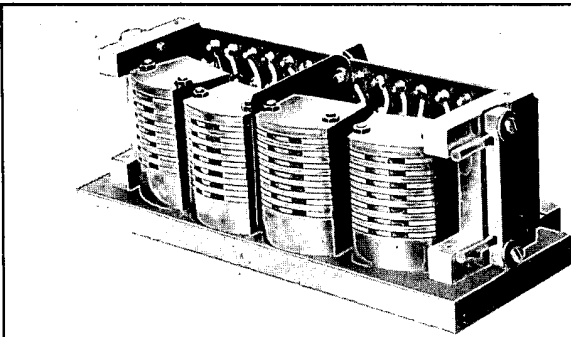

Fig. 4. 14-track record and playback head assembly, showing head stacks.
- c. Fourteen-track units using a one-inch tape have two seven-head record stacks and two seven-head playback stacks. The track arrangement is similar to that described in subparagraph b, above. See Fig. 4.